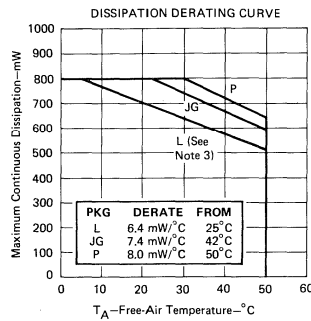

FIGURE 3
2. For operation above 25°C free-air temperature refer to Dissipation Derating Curve, Figure 3. This rating for the L package requires a heat sink that provides a thermal resistance from case to free-air, $R_{\theta CA}$, of not more than 105°C/W.